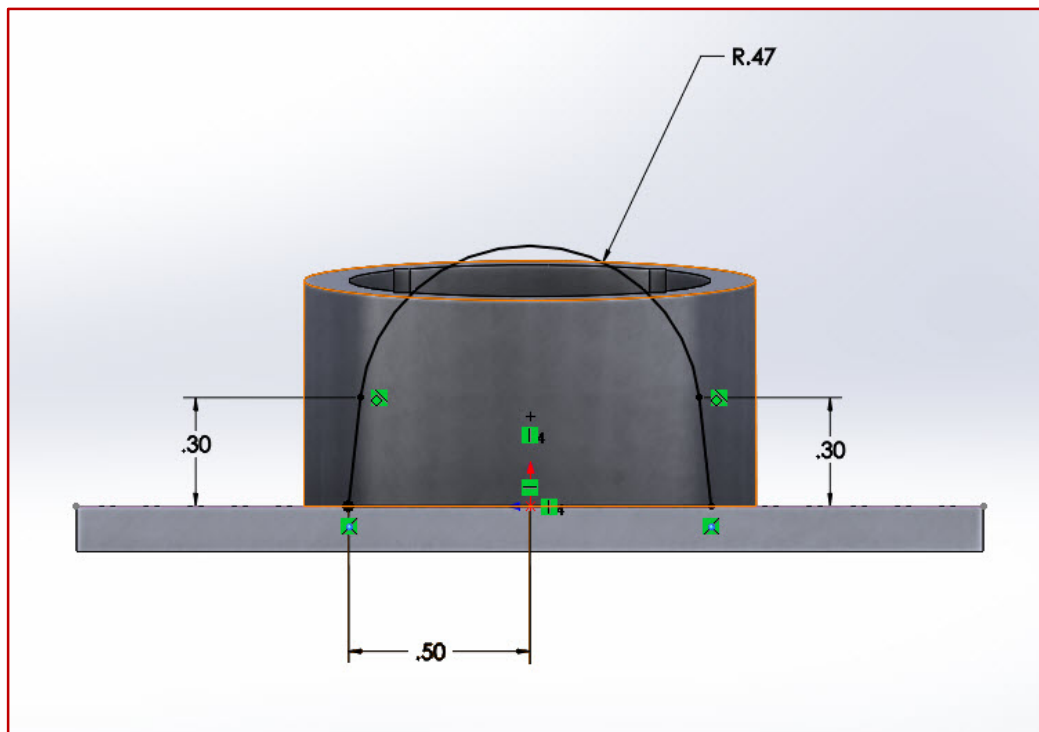

Figure 8.11 – Sketch for the Back of the Pivot Pocket
Step 69: Sketch the cross section at the end of the Truck Base. See Figure 8.11.
- ✓ Sketch the cross section shown in Figure 8.11. Notice that the center of the arc and the origin have a vertical relation. Also, the end of the arc and the straight lines are tangent.